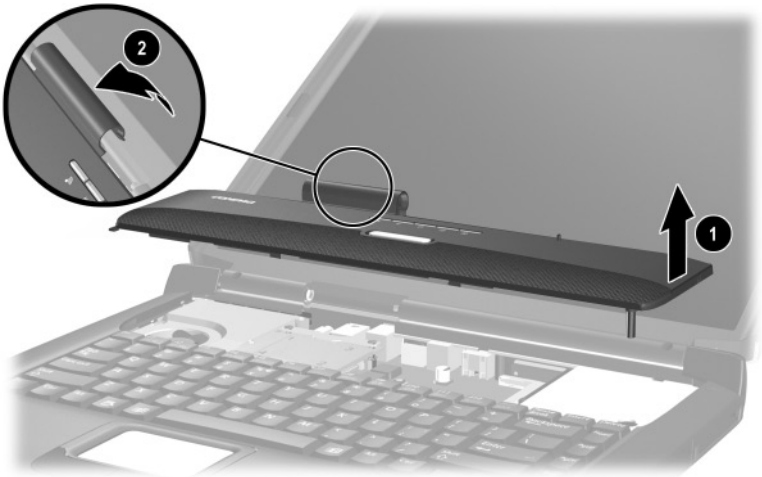

Figure 5-11. Removing the LED Switch Cover
5. Lift the right side of the LED switch cover ❶ to separate it from the base enclosure (Figure 5-11).
6. Swing the top edge of the LED switch cover forward ❷ to separate the cover from the display assembly.